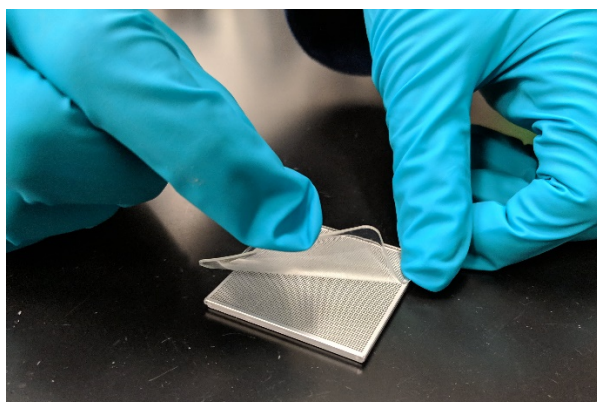

Figure 96. Removing the film from the chip.
3. Carefully peel the film from the chip (Figure 96, below). First, anchor one corner of the chip with your finger. Then, using the tab on the film, apply even pressure until the film is removed.